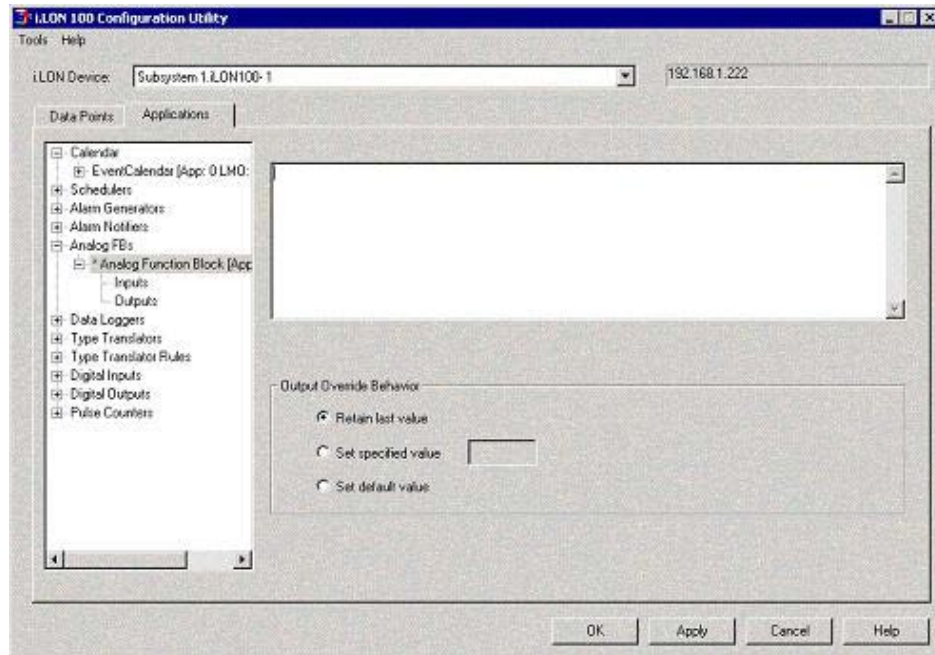

Figure 11.11 Analog Function Block Dialog
6. Enter the IP address of the *i*.LON 100 server and then click **OK**. The Analog Function Block dialog opens, as shown in Figure 11.11.